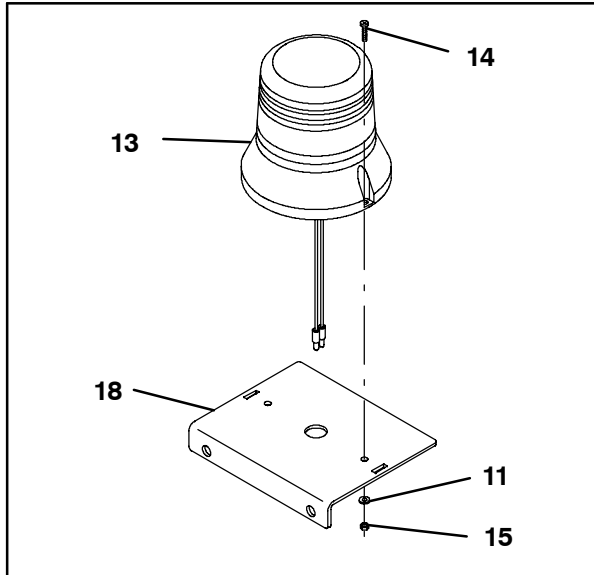

FIG. 2
6. Trim the strobe light (13) and backup alarm (1) wires to the appropriate lengths and crimp bullet terminals (23) onto the wires.
7. Route the strobe light (13) cable through the hole in the light mounting plate (18) and use two pan screws (14), two flat washers (11), and two hex nuts (15) to install the light onto the light mounting plate. Refer to Fig. 2.